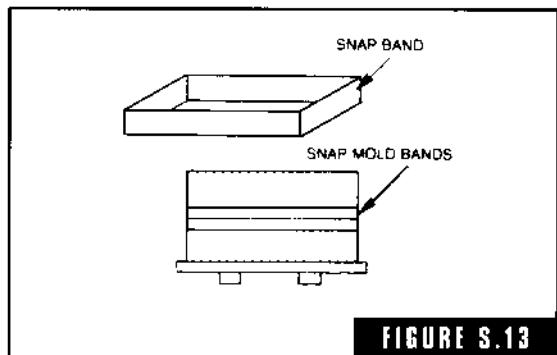

FIGURE S.13
**snap bands** Metal bands dropped into the cope and drag prior to the ramming of straight-sided snaps; they reinforce the mold at the parting line (cope and drag) to help prevent run outs (Fig. S-13). Also called *bands*.